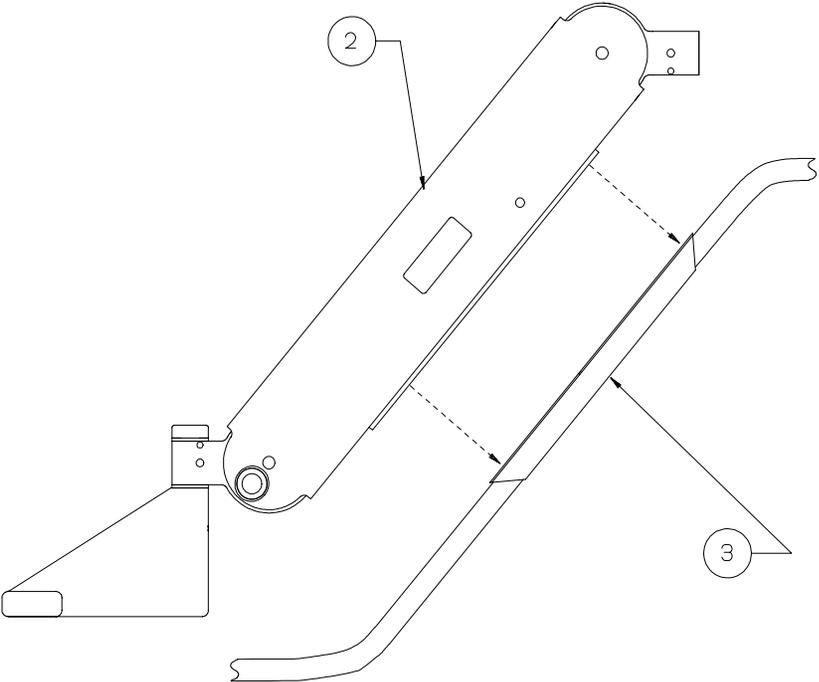

Figure 8
2. Grasp the A-Arm and rotate it upward the maximum distance so the underside of the A-Arm is easily accessible when removing Cable Cover (next step). See Figure 8.
3. Locate the plastic Cable Cover attached to the track on the underside of the A-Arm. Using both hands, grasp the Cable Cover and squeeze its top edges together to free its inside top edge from the track, then pull out and downward and detach the Cable Cover (and cable) from the A-Arm. See Figure 8.
12. Locate the plastic Cable Cover attached to the track on the underside of the A-Arm. Using both hands, grasp the Cable Cover and squeeze its top edges together to free its inside top edge from the track, then pull out and downward and detach the Cable Cover (and cable) from the A-Arm, as shown in Figure 8 previously.